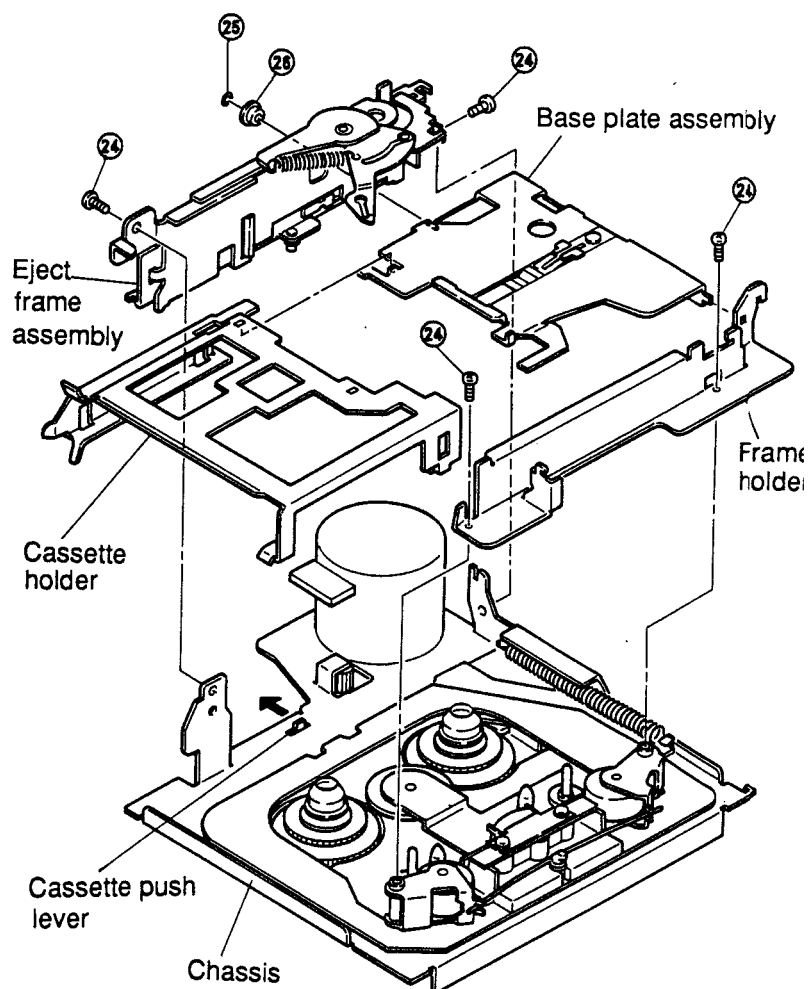

Figure 17
- (1) Remove four screws ②④ and remove the eject frame assembly and the frame holder as shown in Figure 17.
- (2) Remove M1.2 lock washer ②⑤ and plate base roller ②⑥ and remove the cassette holder and the base plate assembly as shown in Figure 17.
- (3) Remount them following the removal steps in the reverse order.
2. When mounting the eject frame assembly, push the cassette push lever in the direction indicated by the arrow in the Figure 17.